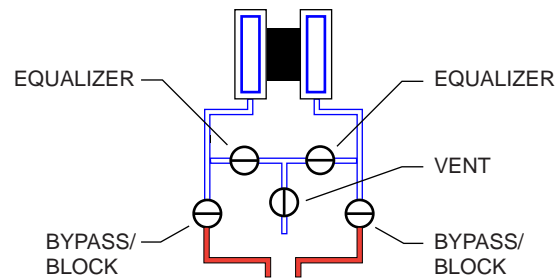

Figure 2.16—Valve positions for zero offset
1. Close the bypass valves to isolate the pressure below the manifold (Figure 2.16, page 51).